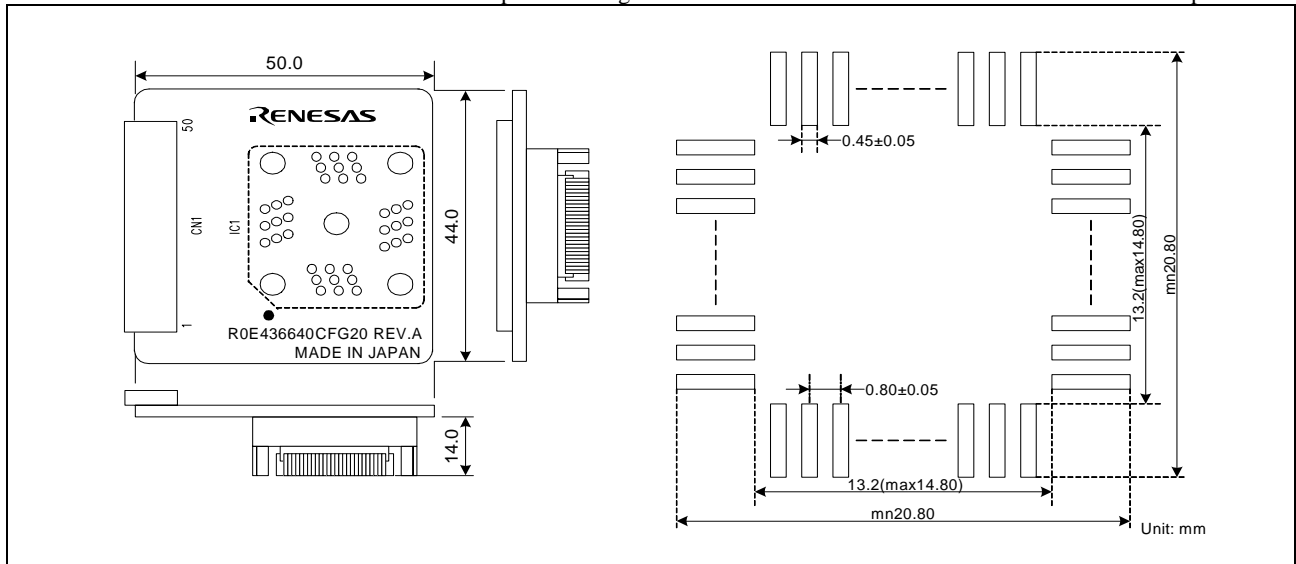

Figure 4 External dimensions and a recommended foot pattern of the R0E436640CFG20
6. External Dimensions and a Recommended Foot Pattern (See Figure 4)
Note that the dimensions of the recommended foot pattern in Figure 4 are somewhat different from those of the actual foot pattern.